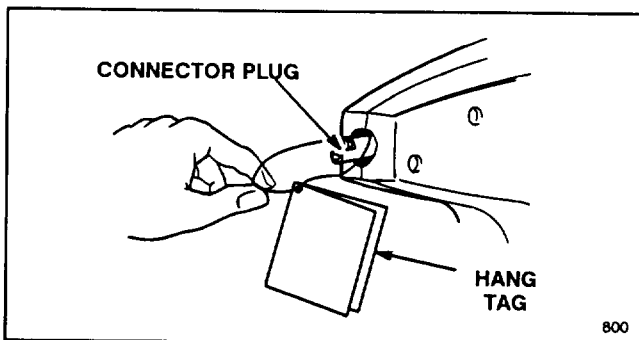

Figure 2
2. If connector plug has retracted into the trimmer housing, use the hang tag string to pull the connector out of the housing (Fig. 2).
5. After connectors are securely connected, remove hang tag from connector plug (Fig. 2).